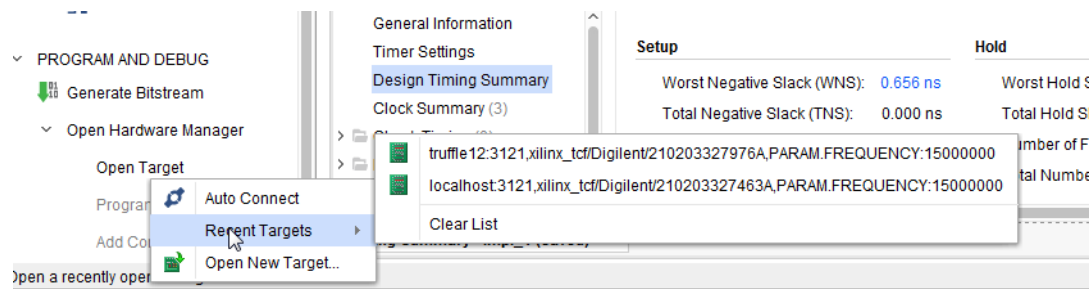

Figure 4-1: Using the Flow Navigator to Open a Hardware Target
- Use the **Open Target** selection under **Hardware Manager** in the **Program and Debug** section of the Vivado Flow Navigator to open new or recent hardware targets (see Figure 4-1).